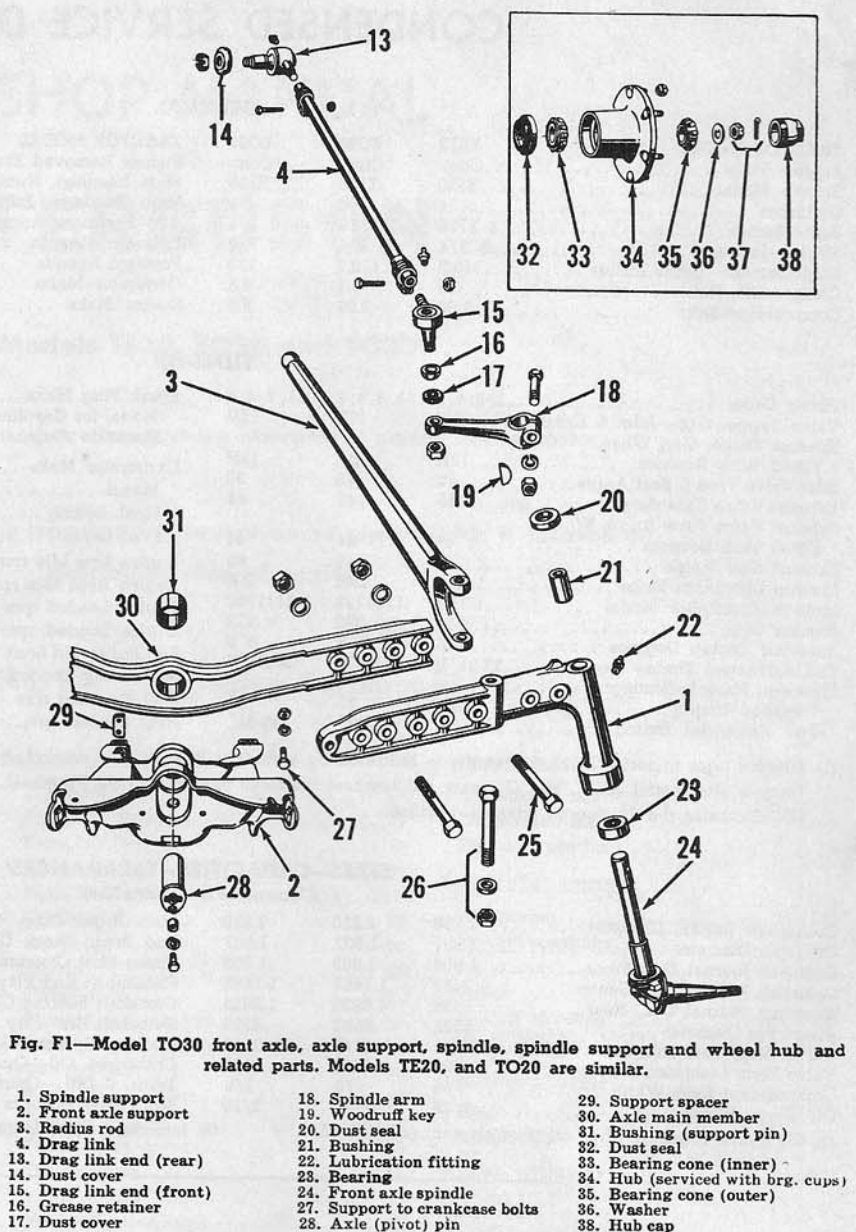

Fig. F1—Model TO30 front axle, axle support, spindle, spindle support and wheel hub and related parts. Models TE20, and TO20 are similar.
To renew bushing (31—Fig. F1), remove hood, jack up the engine and unbolt the axle support. Remove the two radiator retaining bolts and raise engine and radiator high enough to permit removal of axle pivot pin. Remove pivot pin retaining screw. Remove the pivot pin by prying same forward and out of axle and drop support away from axle.
3. Each axle spindle support (1—Fig. F1) contains two split type, steel backed Clevite bushings which should be final sized after installation to an inside diameter of 1.249-1.250. Desired clearance of the spindles (24) in these bushings is 0.003 to 0.005 inch. Bushings for one side can be renewed after removing the front wheel, and front axle spindle (24) as an assembly.